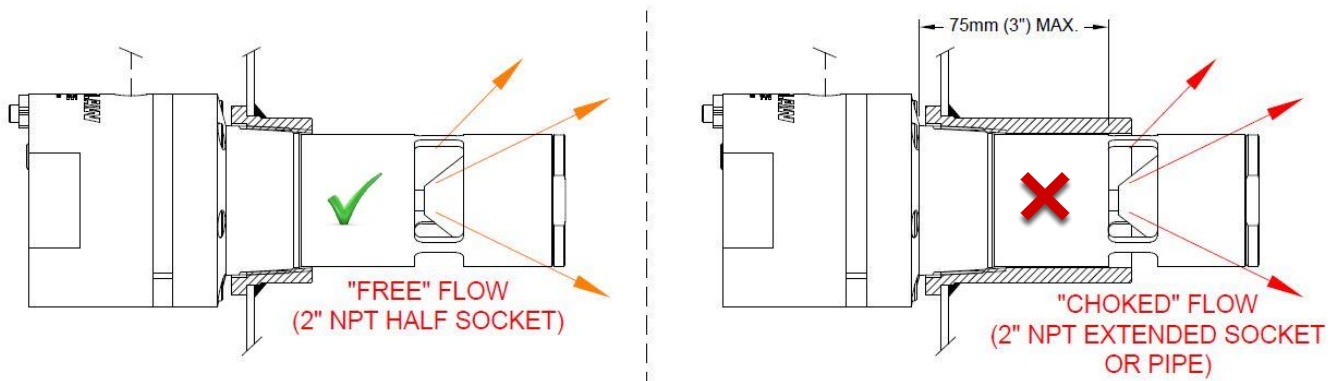
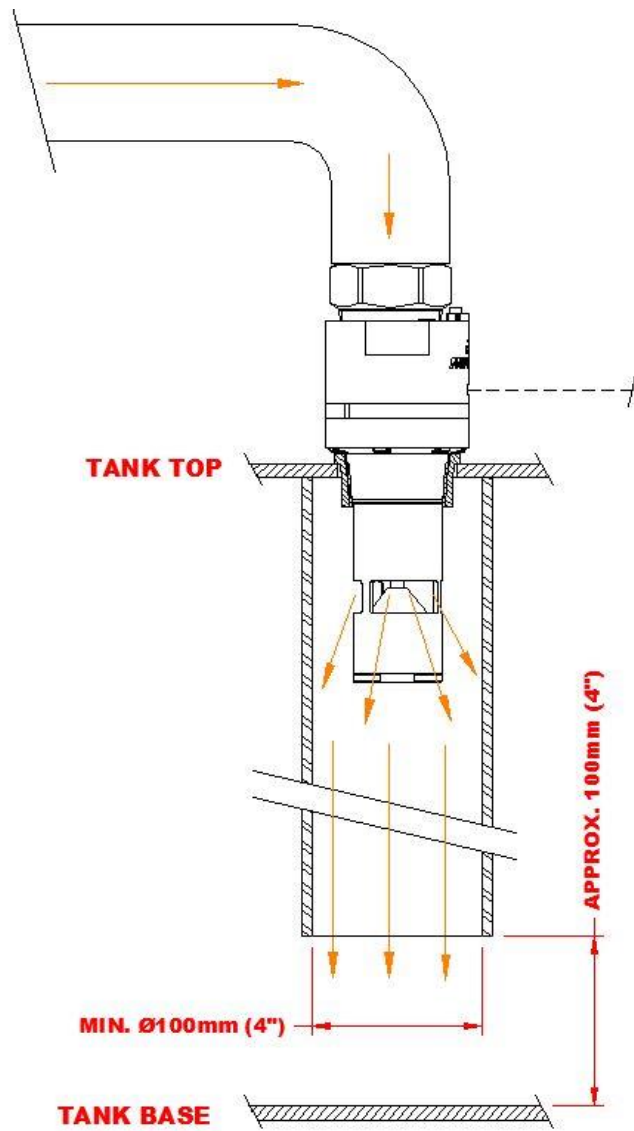
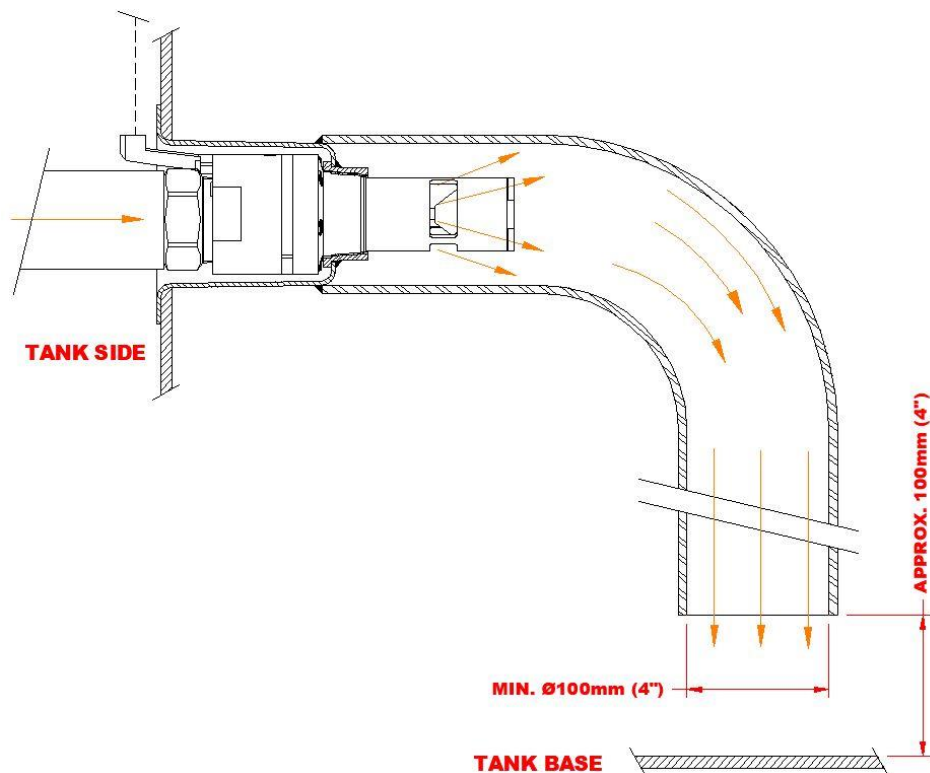

Figure 12 - Do **NOT** Install Valve Back End within Pipe (or Extended Socket)
Figure 16 - BFCV50E Installed Within Vertical Drop Pipe
Figure 17 - BFCV50ES Installed Within Swept Drop Pipe
- The outlet (i.e. back end) portion of a Flow Control Valve cannot be installed within a Pipe or some other “extended” socket or extension (>70mm, 2.7”) which may impede (choke) the flow of diesel fuel from the array of circumferential ports on the forward (upstream) side of the Piston. It is recommended the Valve be installed within a 2” NPT **half** socket (i.e. **half** coupling) – refer Figure 12.
Section 5.1 and Figure 12 warn against installing the Valve within an extended socket, pipe or some other area which may “choke” the fuel discharge from the Valve. Whilst this is important, Figure 16 and Figure 17 illustrate examples of a Valve installed within a Drop Pipe (or metal Tube) which is satisfactory **provided the size (bore) is no less than 4” (DN100) and short radius bends are avoided**. The use of a Drop Pipe/Tube will help to minimize diesel foaming, static charge, and avoid the fuel discharge from the Valve impacting the Level Sensor or Tank Vent(s). Adequate structural support for any Drop Pipe shall be provided to avoid undue stress and fatigue, particularly at the point of attachment (i.e. inlet).